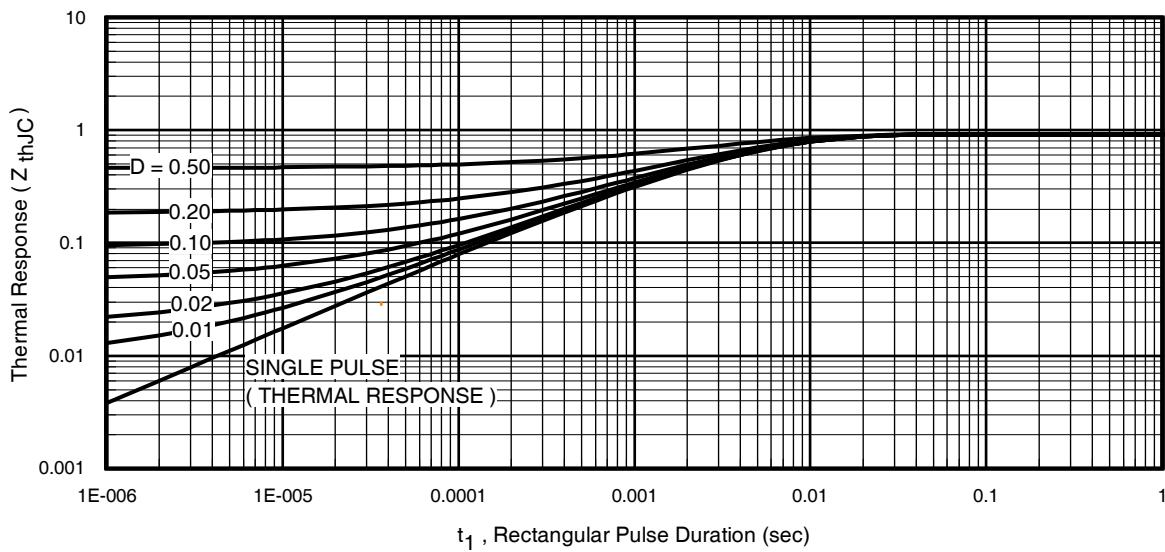
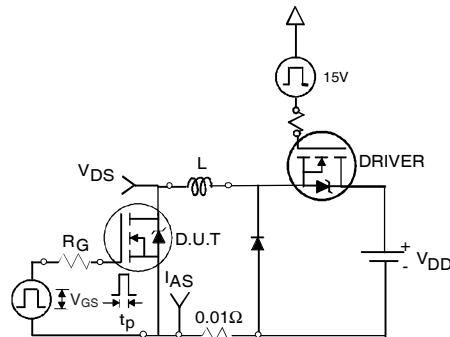

Fig 11. Maximum Effective Transient Thermal Impedance, Junction-to-Case
Fig 12a. Unclamped Inductive Test Circuit
- ① Repetitive rating; pulse width limited by max. junction temperature. (See fig. 11).
- ② Limited by $T_{J\max}$, starting $T_J = 25^\circ\text{C}$, $L = 0.27\text{mH}$, $R_G = 25\Omega$, $I_{AS} = 35\text{A}$, $V_{GS} = 10V$. Part not recommended for use above this value.
- ③ $I_{SD} \leq 35\text{A}$, $di/dt \leq 380\text{A}/\mu\text{s}$, $V_{DD} \leq V_{(\text{BR})\text{DSS}}$, $T_J \leq 175^\circ\text{C}$.
- ④ Pulse width $\leq 1.0\text{ms}$; duty cycle $\leq 2\%$.
- ⑤ $C_{oss \text{ eff.}}$ is a fixed capacitance that gives the same charging time as C_{oss} while V_{DS} is rising from 0 to 80% V_{DSS} .
- ⑥ Limited by $T_{J\max}$, see Fig.12a, 12b, 15, 16 for typical repetitive avalanche performance.
- ⑦ This value determined from sample failure population. 100% tested to this value in production.
3. Equation below based on circuit and waveforms shown in Figures 12a, 12b.
- Z_{thJC}(D, t_{av}) = Transient thermal resistance, see figure 11)